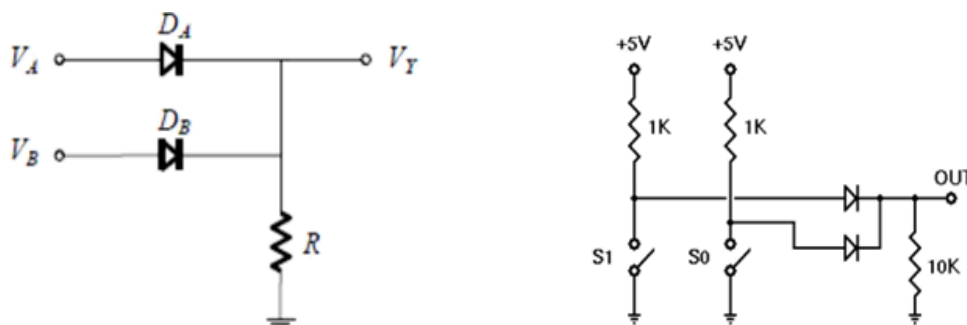

Fig. 1 DL OR Gate
1. Construct the DL-OR gate on your breadboard as shown in Fig. 1. Then draw a Truth Table similar to the one provided and fill in your experimental results.